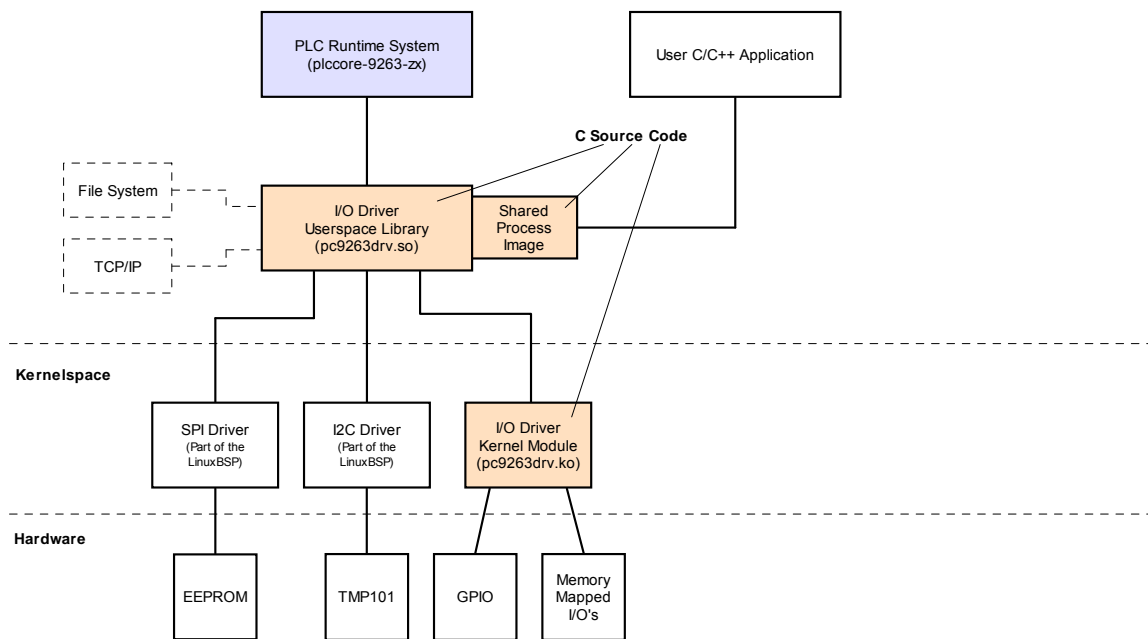

Figure 33: Overview of the Driver Development Kit for the PLCcore-9263
Figure 33 provides an overview of the DDK structure and its components. The DDK contains amongst others the source code of the Linux kernel driver (*pc9263drv.ko*) and the Linux user library (*pc9263drv.so*).
1. Source code for the Linux kernel driver (*pc9263drv.ko*, see Figure 33); includes all files necessary to regenerate kernel drivers (C and H files, Make file etc.)
2. Source code for the Linux user library (*pc9263drv.so*, see Figure 33); contains all files (incl. implementation of Shared Process Image) necessary to regenerate a user library (C and H files, Make file etc.)